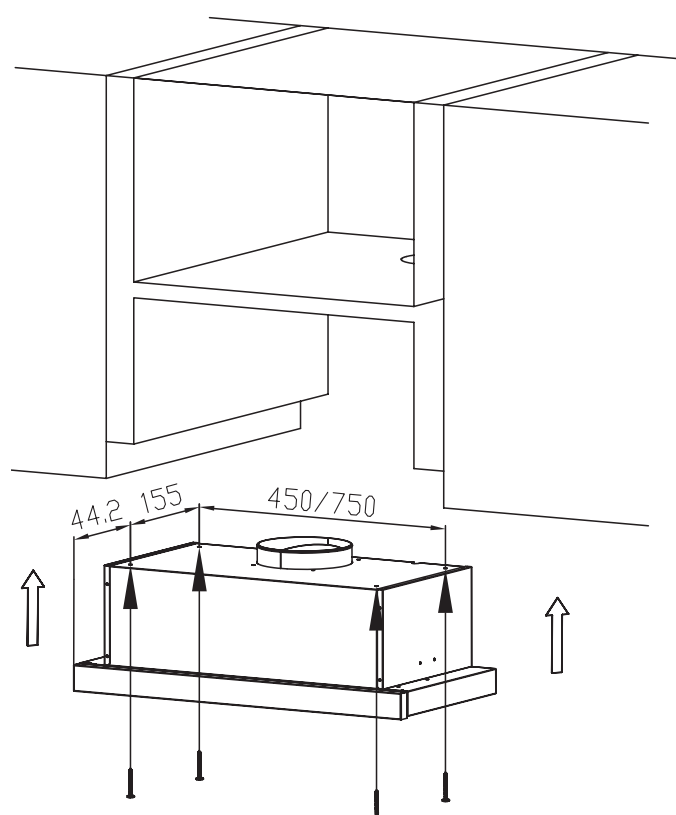

Figure 14
- Install the rangehood onto the bottom of the cupboard and secure it in place with four ST4×30mm screws (Figure 14).